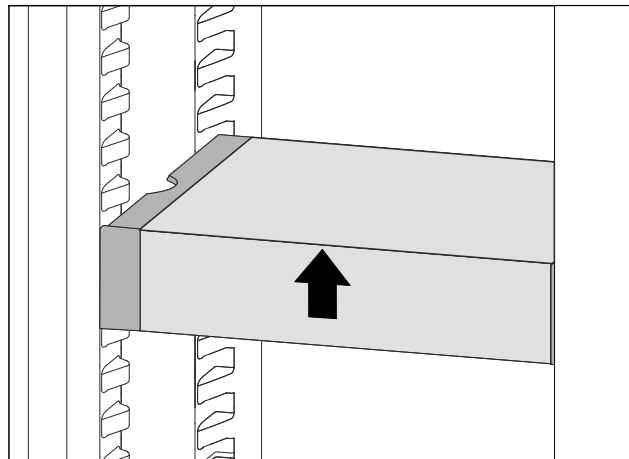

*Fig. 185*
- ▶ Place the VarioSafe drawer behind the stoppers on desired rib *Fig. 185 (1)* or *Fig. 185 (2)*.